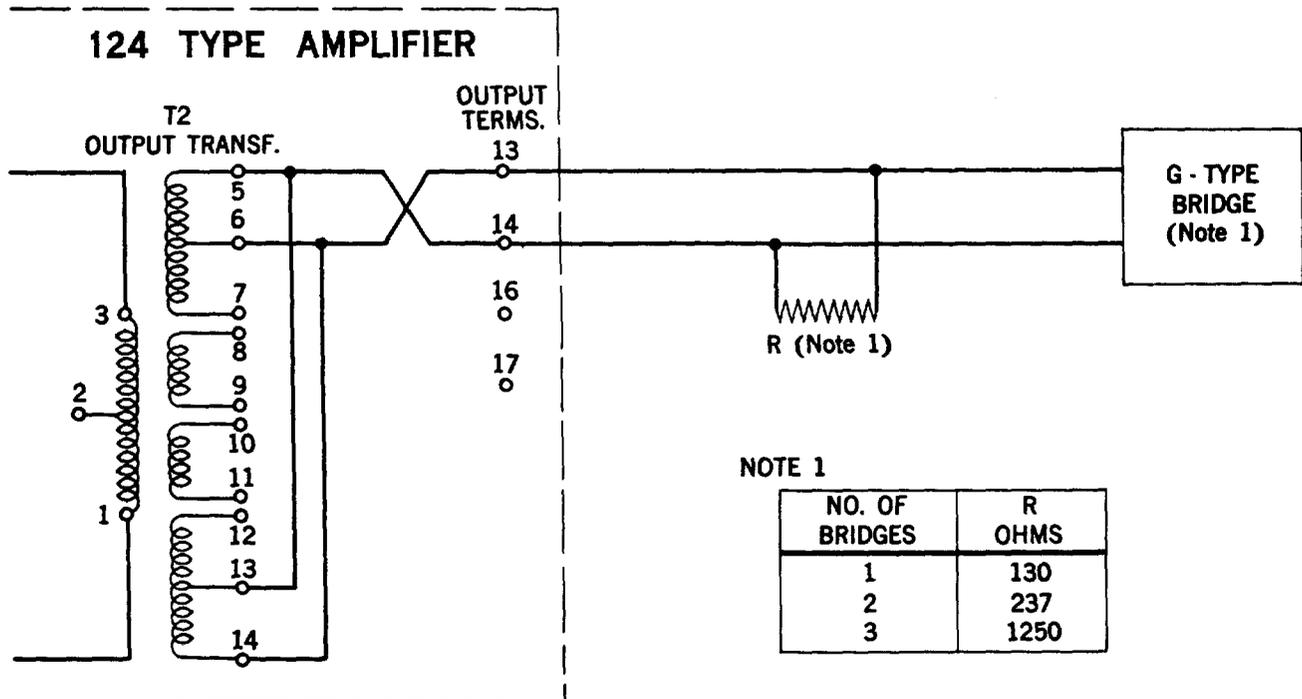

Fig. 1
1.02 The connections to be employed are shown in Fig. 1. It will be noted that under these conditions the amplifier is connected for a 92-ohm load and the impedance looking back into the amplifier output terminals will be in the order of 60 ohms. The 130-ohm shunt between the amplifier output and the bridge input makes the impedance presented to the amplifier approximately 90 ohms, and also furnishes the proper termination for the bridge input.